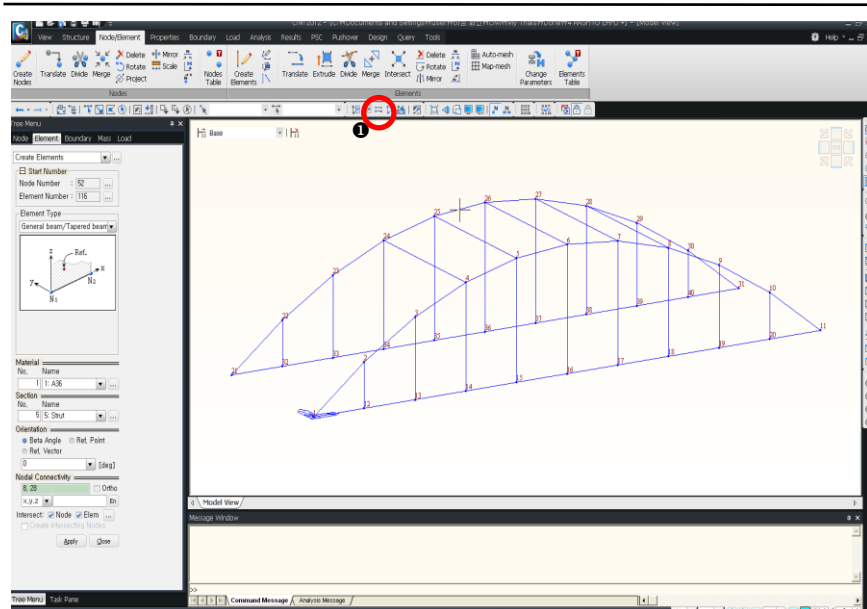

Figure 4.14 Completed Struts
1. Click  **Inverse Activate** (Figure 4.14¹) in the Icon Menu.
6. Click the **Nodal Connectivity** field. Once the background color turns to pale green, connect separately nodes 4 and 24, 5 and 25, 6 and 26, 7 and 27, and 8 and 28 (Figure 4.14).